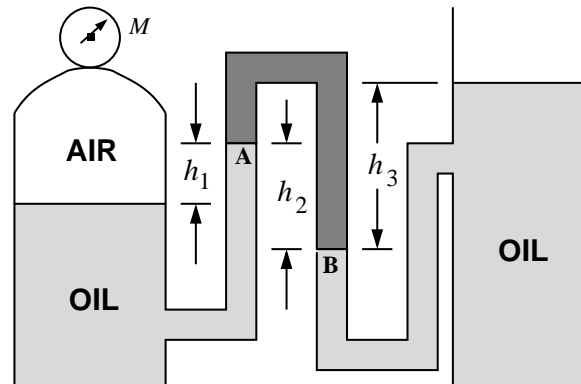

Figure 1: Dual tank configuration.
1. (10 pts) Two tanks are connected, as shown in Fig. 1. The left one contains oil of density  $\rho_o$  under a certain air pressure  $P_M$ , as given by meter  $M$  mounted on its dome. The right one contains the same kind of oil, but is open to the atmosphere. A manometer having a fluid of density  $\rho_m$  connects the tanks. Given the measured displacements  $h_1$ ,  $h_2$ , and  $h_3$ , determine the  $P_M$  that the gauge should display. Points **A** and **B** in Fig. 1 denote the interfaces between the oil and manometer fluid.